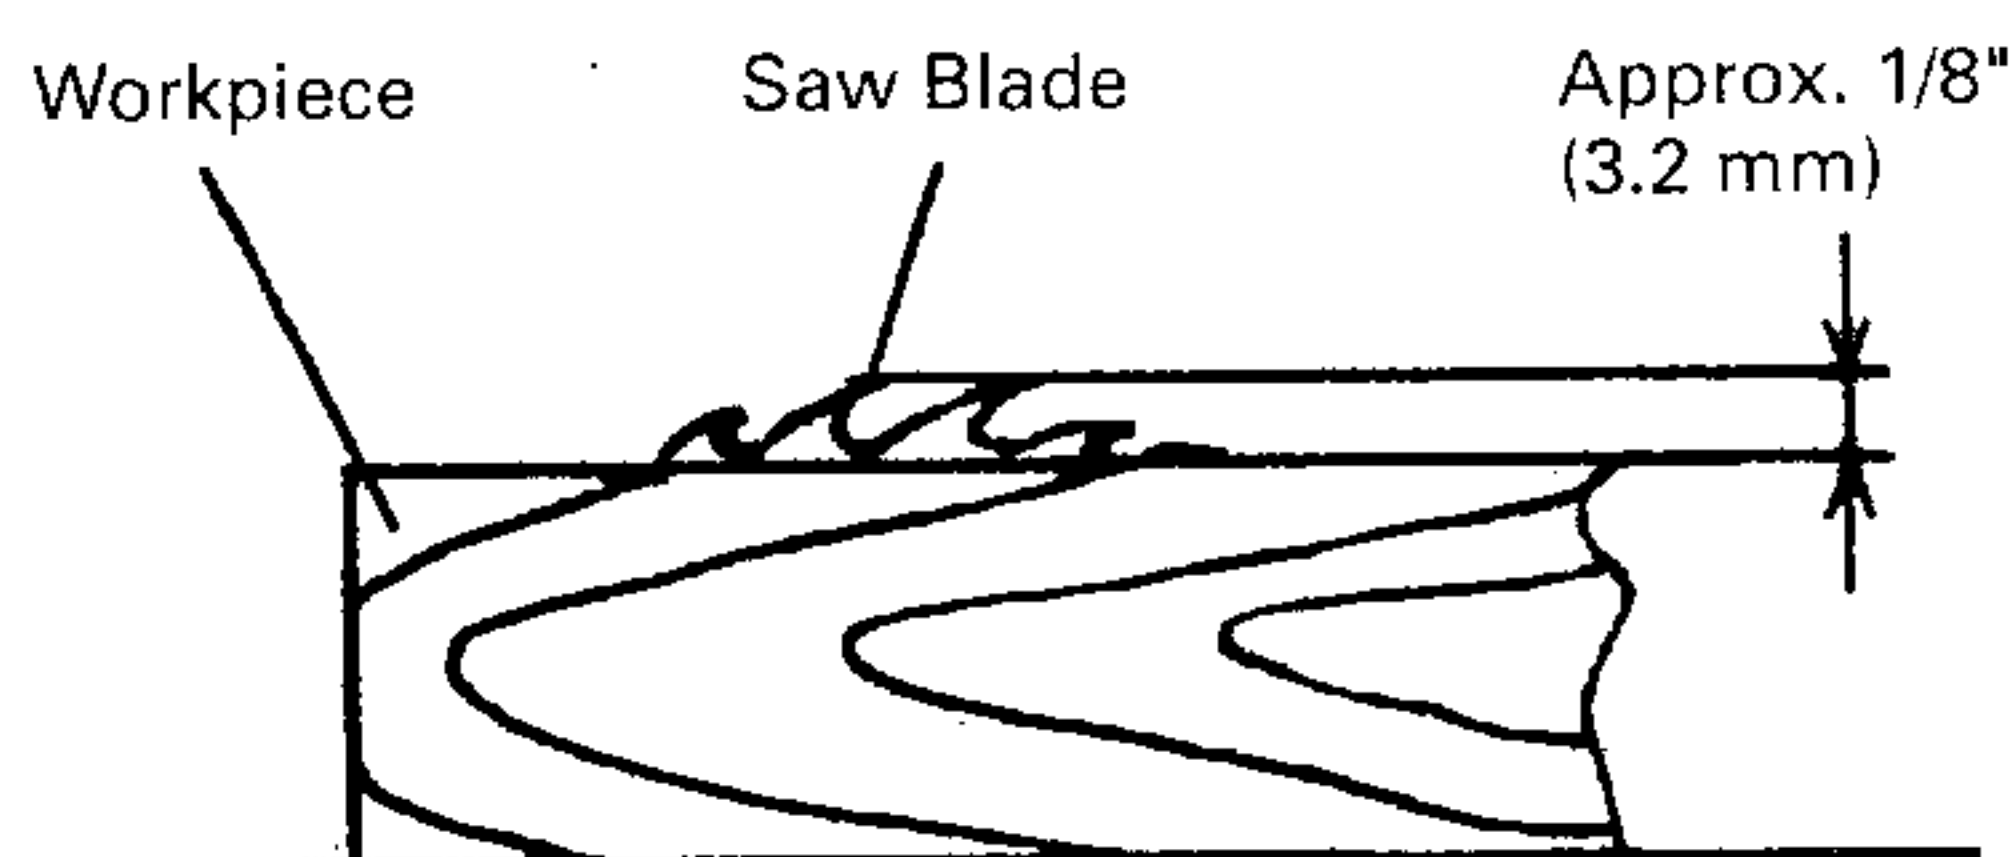

Fig. 24
4. When the miter gauge is used, securely tighten clamp handle (B).
10. Adjust the saw blade height so it is about 1/8" (3.2 mm) above the top of the workpiece. More exposure would be hazardous (see Fig. 24).